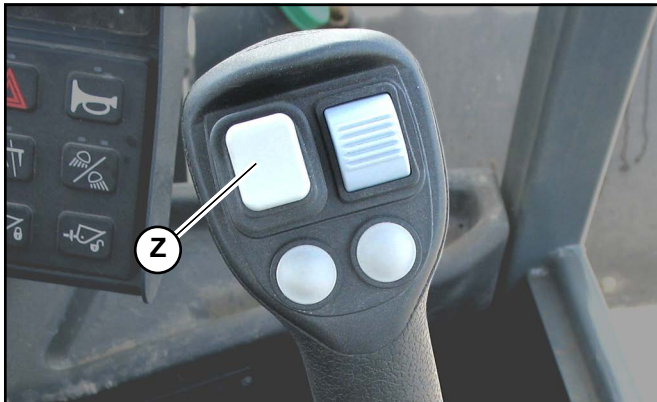

Fig. 78 – Travel Direction Switch
**IMPORTANT:** Test the parking brake each time before using the machine. Adjustment/maintenance is required if the parking brake doesn't keep the machine from moving when parking brake lever (G) is pulled up as far as possible. Refer to "Parking Brake Adjustment/Service" on page 196.
10. Place travel direction switch (Z, Fig. 78) on the multi-function joystick into the middle, or neutral, position.